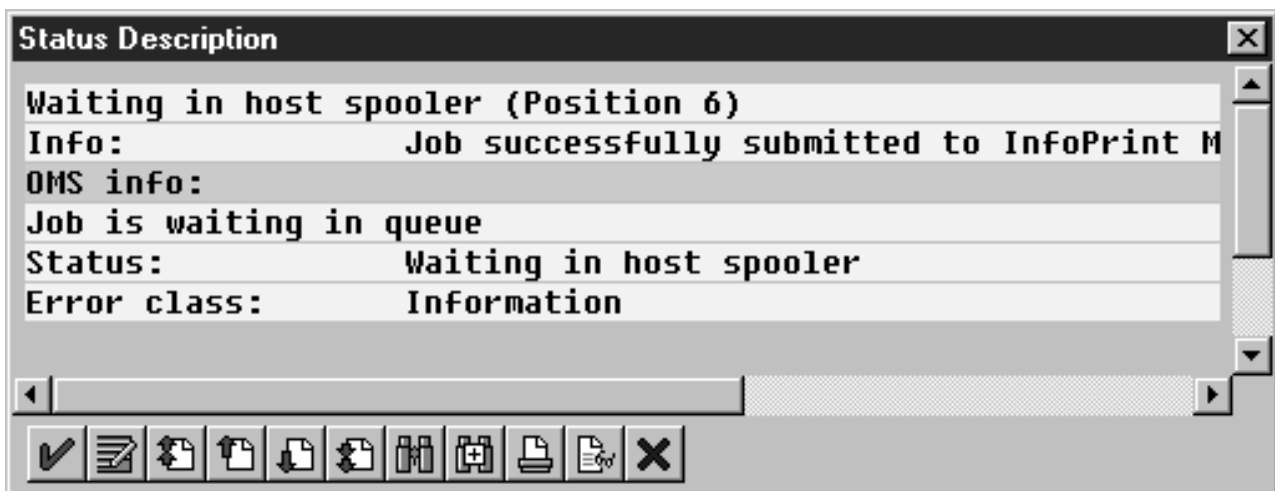

Figure 18. Status Description field
- From the **Status Description** pop-up window, you can also click on the **Query** button and issue a query to return the current information for a job, including its position in the queue. For example, Figure 18 displays the result of a 'Query' for a job that has been successfully submitted for printing. Notice that the first line shows the job's position in the print queue.